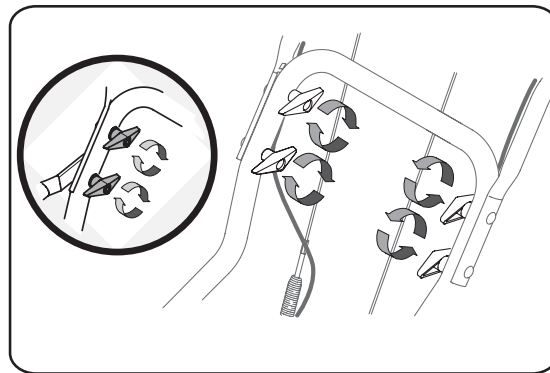

Figure 3-2
- Remove the lower handle knobs, washers and carriage bolts (and support tubes if equipped as shown in inset) from each side of the lower handle. See Figure 3-2.